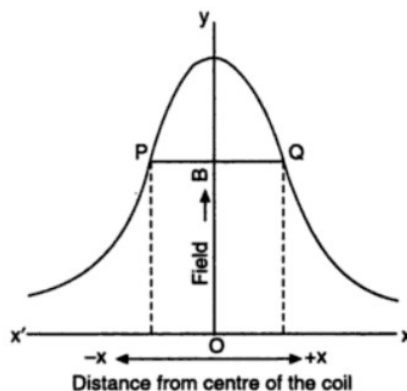

Figure-1
- Plot  $\tan \theta$  versus  $x$ . It will be similar to the graph between  $B$  and  $x$ , as shown in Figure-1
$$\frac{d^2B}{dx^2} = 0, \text{ when } x = \pm a/2 \text{ (points of inflection which are shown in the Figure-1)}$$
Exercise 1: Find the radius of the coil from Figure-1